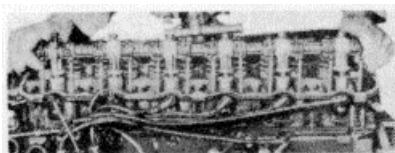

FIG. 32. Valve Rocker Arm Shaft Removal
3. Remove the rocker arm shaft support bolts by loosening the bolts two turns at a time in sequence. Remove the rocker arm shaft assembly (Figure 32). Remove the valve push rods. **Make sure the push rods are identified before removal so they can be returned to the same location when they are installed.**